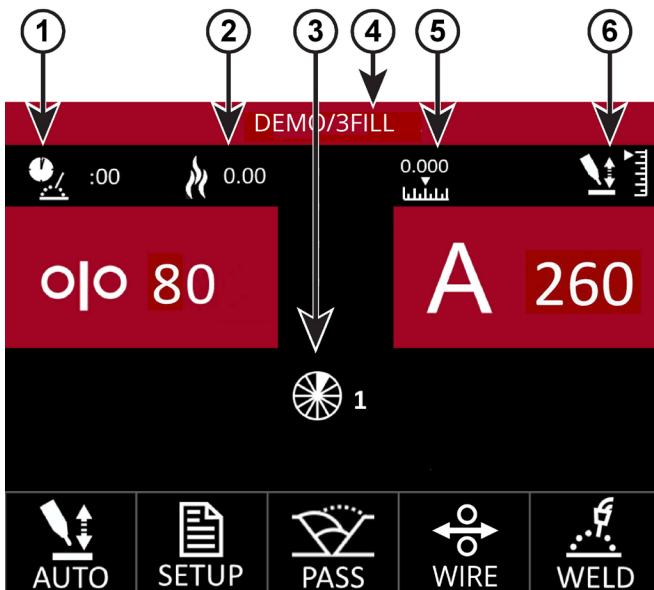

FIGURE 8 - Static Items
- **Short Press** - Switches between weld and test modes (FIGURE 8 shows system in Weld Mode)
The screen shot above – **FIGURE 8 - Static Items** – illustrates the icons that appear on the weld screen. These icons are for information only and are not selectable variables.